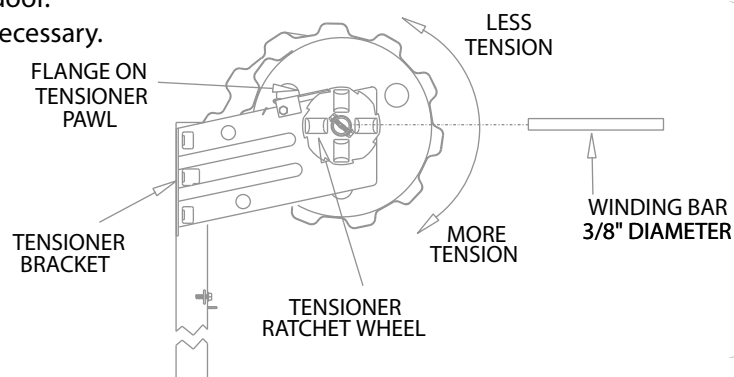

FIGURE 12
- Place 3/8" diameter winding bar in tensioner ratchet wheel. **See figure 12.**